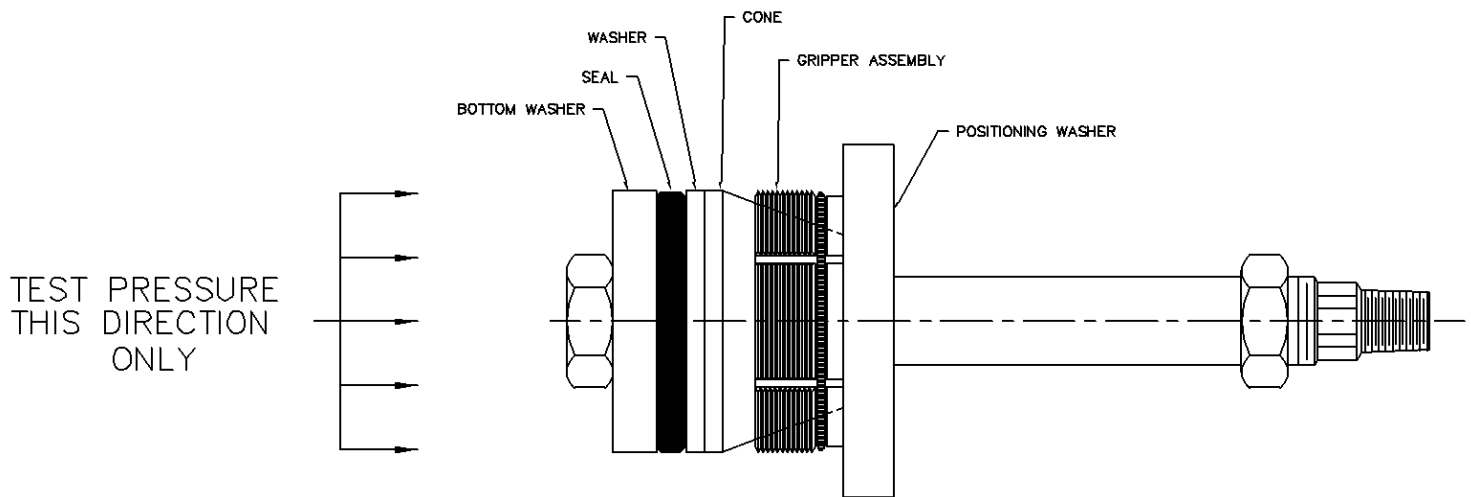

FIGURE 1
1. PRIOR TO USE, replace damaged or worn grippers and seal. Ensure parts are assembled as shown in figure 1. The surface between the cone and grippers must be free of friction producing dirt or corrosion. Apply a light lubricant such as SAE 10W motor oil to the tapered surface of the cone. Wipe away any excess lubricant from components making sure to leave an ample amount on tapered cone face and mating surface of the gripper back. Lubricant must not be on seal.